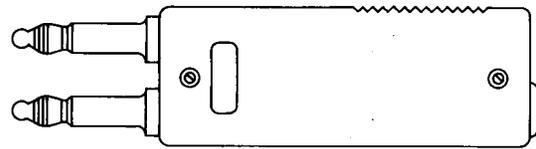

Fig. 11—438A or B Plug
2.12 438A and B: The 438A and B (Fig. 11) consist of twin, 3-conductor plugs with a shell of black insulating material. The 438A and B plugs are designed to be used with 238-, 239-, or similar-type jacks. The 438A and B plugs are not for cord or cable connections.